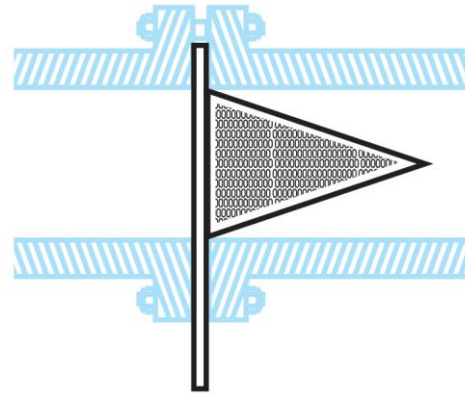

Figure 1
2. Simply install the strainer into the pipeline and situate it between the pipe flanges. Insure that the mesh lining, if provided, is “facing” the flow. The strainer is designed to be self-centering between the pipe flanges and bolting. Be sure to install the necessary gaskets and bolting. Torque bolts properly by using standard piping practices. See Figure 1.